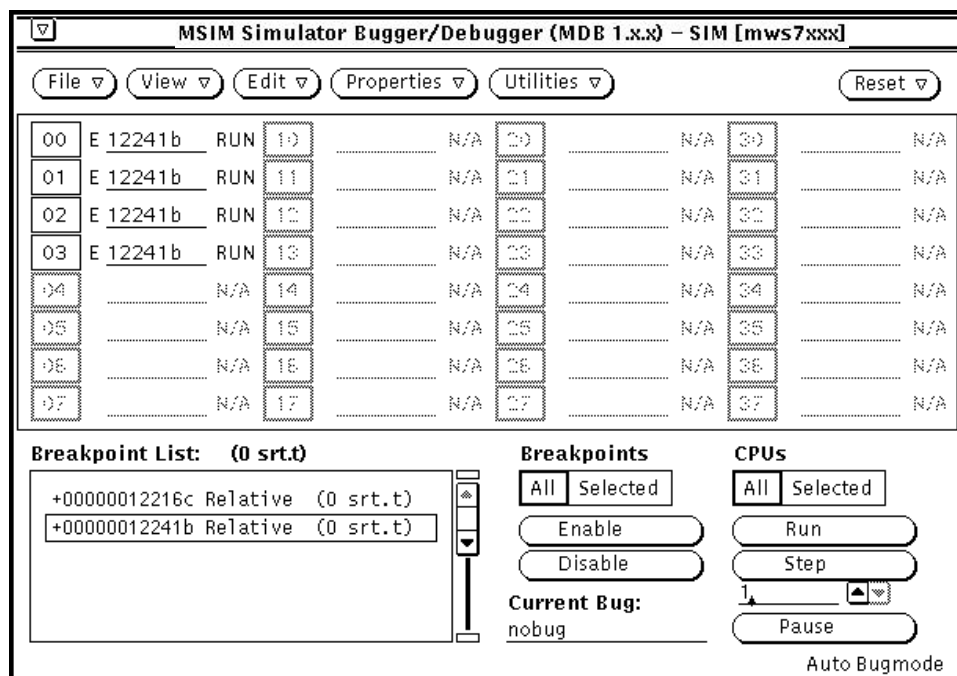

Figure 9. Breakpoint Set at Locations 12216c and 12241b
- Repeat Step 4 through Step 8 to set another breakpoint (this example uses an address of 12241b for the second breakpoint). Refer to Figure 9.